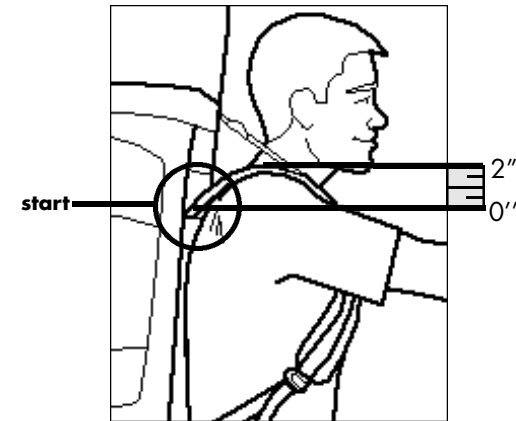
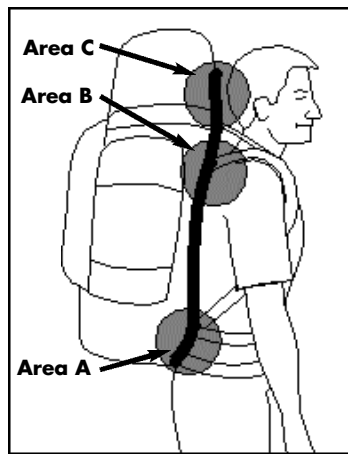

Figure 5
Figure 13
- Once the waistbelt is in the correct position, tighten the shoulder straps. To tighten shoulder straps pull the webbing at the lower ends of the shoulder strap down & back. The pad of the shoulder strap should start one to two inches below the top of your shoulder (see Figure 5). (Put a little more load on your shoulders than you want to end up with.) During this operation the load-lifter straps should be kept loose.
7. When the pack fits as seen in Figure 5 (page 4), walk around and notice how the pack feels against your back. The pack should contour to your back as in Figure 13.